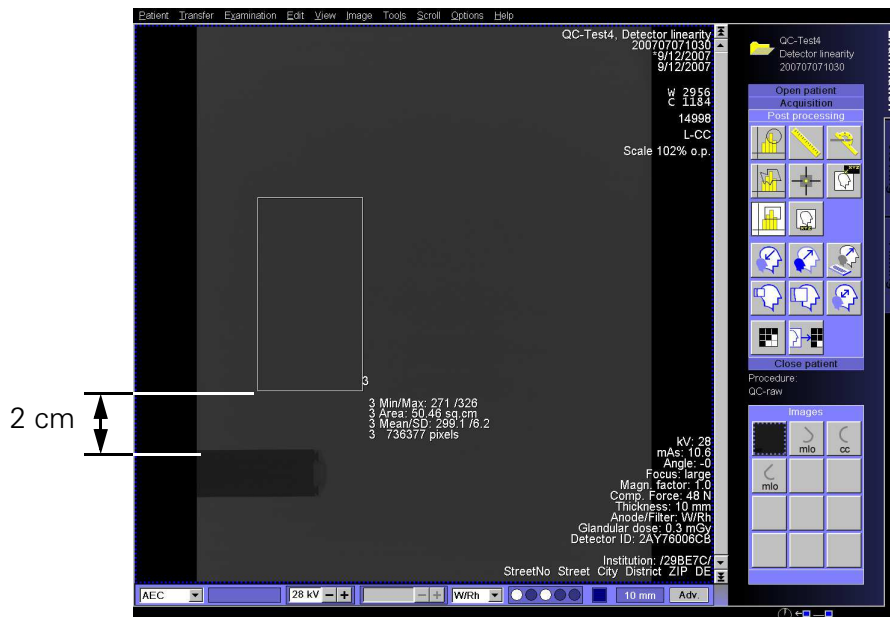

Figure 5 ROI Positioning
9. Define a ROI according to Figure 5, making sure that there is a distance of at least 2 cm between ROI and dose meter.